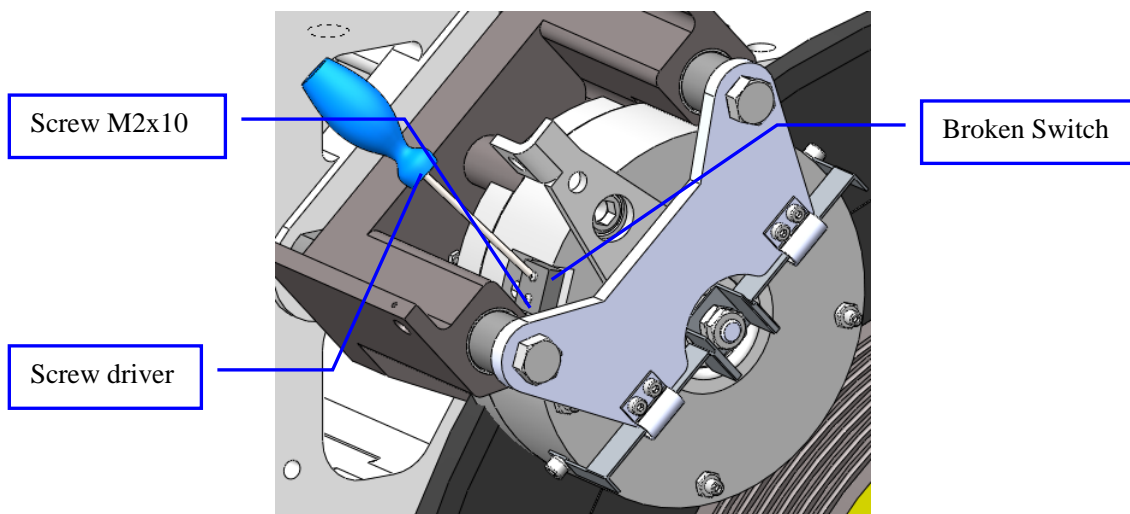

Figure 40: Remove M2x10 screws
4. Loosen the screws M2x10 using the Philips head screw driver, then remove the broken switch. See Figure 40.